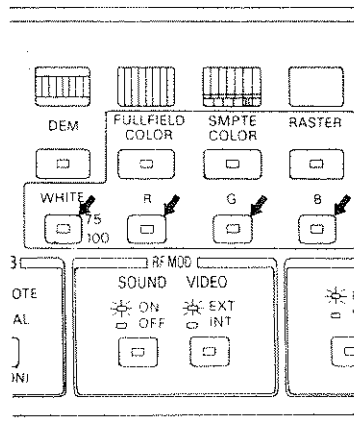

Figure 4.11
4.2.9 Turning Color Bar or RGB of Raster On/Off, and Selecting 100% or 75% White Level (See Figure 4.11).